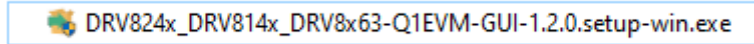

Figure 3-4. GUI Application Archive Contents
4. From the decompressed archive, run the installer: for example, "DRV824x_DRV814x_DRV8x63-Q1EVM-GUI-1.2.0.setup-win" (refer to Figure 3-4). If the GUI Composer Runtime has not been installed, then the installer takes care of this. The installer contents looks slightly different for each OS, but is self-explanatory.